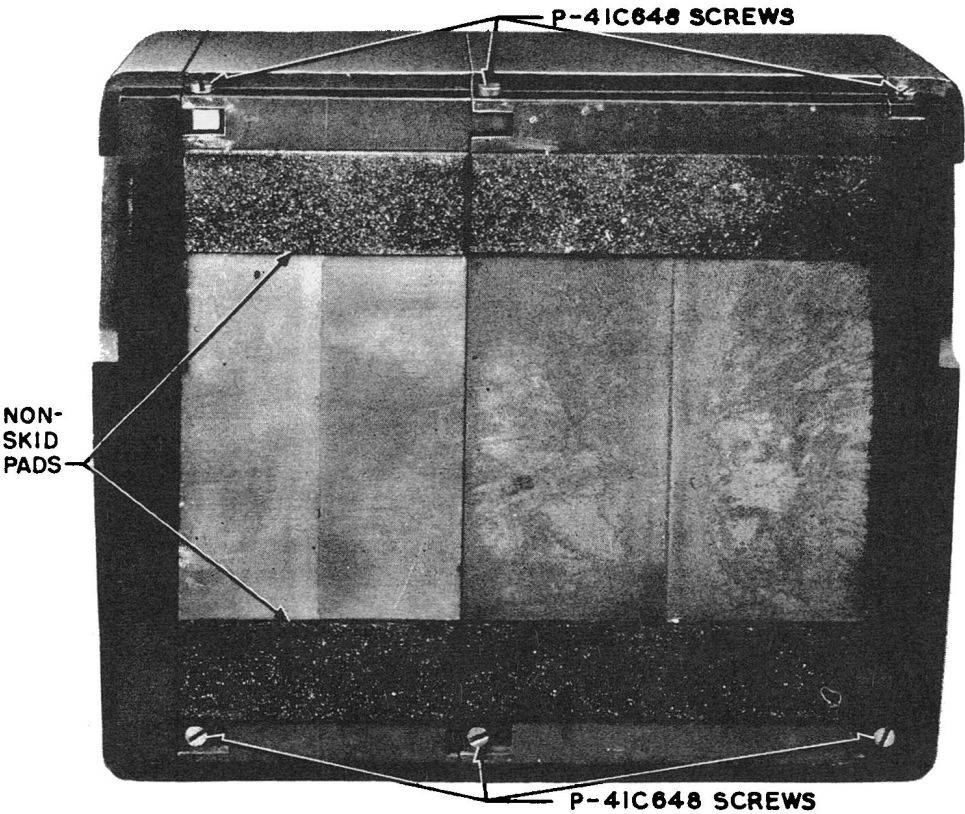

Fig. 18 — Apparatus Cases Joined, Bottom View
7.02 Individual cases join together by means of an interlock arrangement at the top and are secured at the bottom with two screws. Cases are equipped with nonskid pads (Fig. 18).